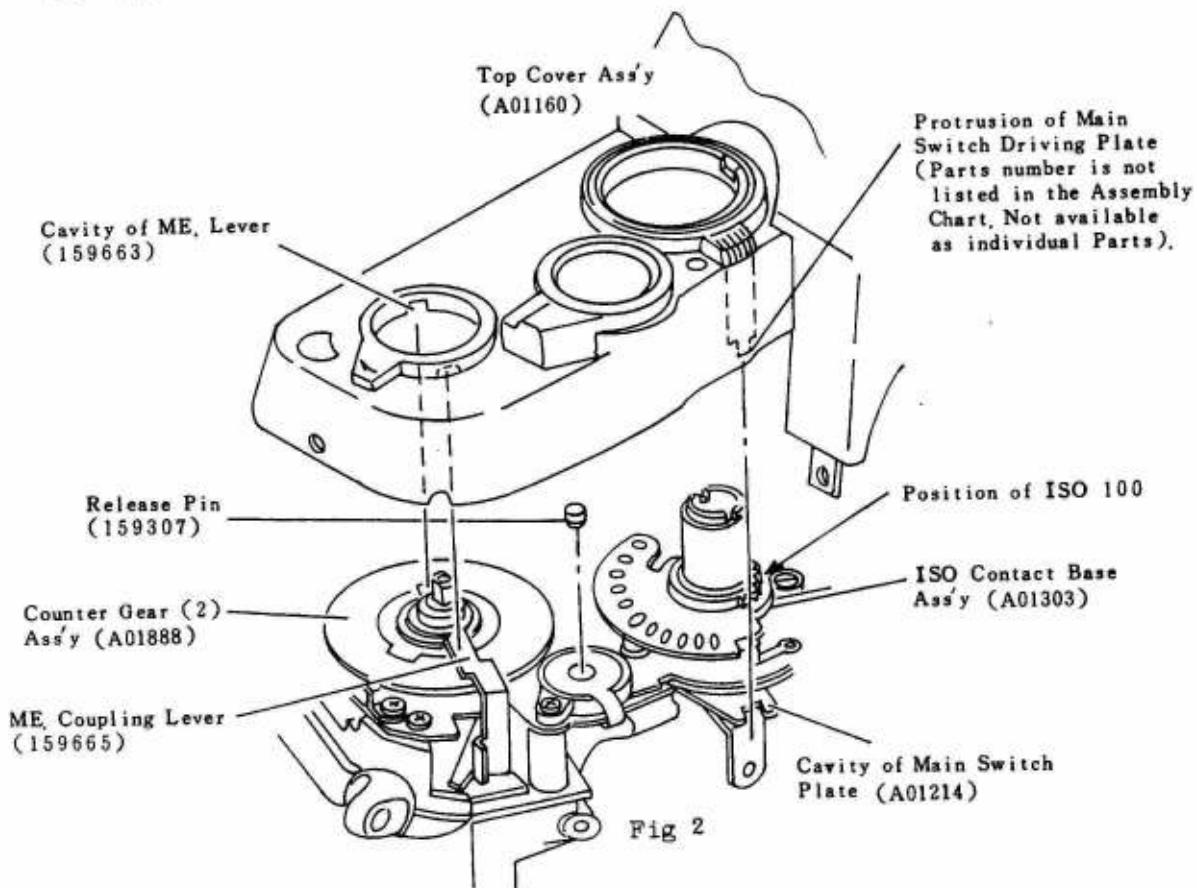

Fig 2
- b) Release Pin (159307)(Fig 2) easily falls off when the camera body is turned upside - down.
- b) When mounting the Top Cover Ass'y, the protrusion of Main Switch Driving Plate should engage into the cavity of Main Switch Plate (A01214) and the cavity of ME Lever (159663) should engage into the ME. Coupling Lever (159665) as shown in (Fig 2).